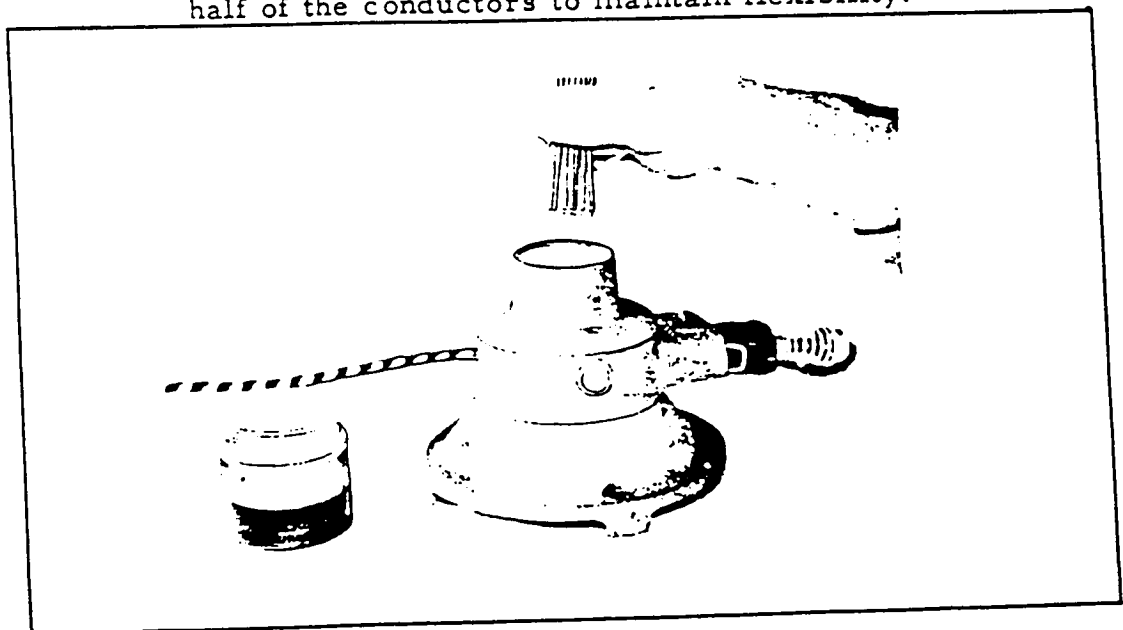

Figure 2.
- 2-8. Clean the conductors, and dip them approximately 1/16" into a good grade of rosin-alcohol flux. With the solder bath at correct temperature, dip the conductors approximately 1/16" into the bath, as shown in figure 2.